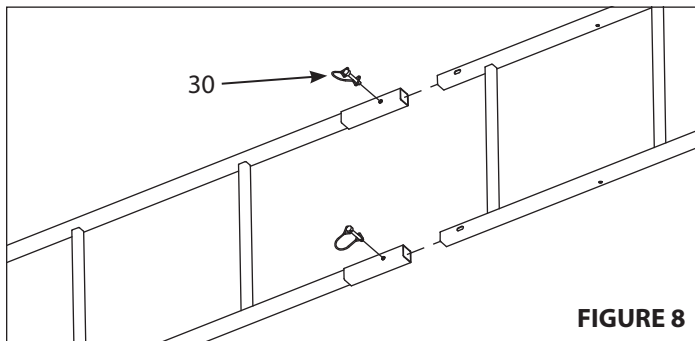

FIGURE 8
13. a. Attach the sewn seat pad (18) to the metal seat frame (9) by wrapping straps around metal frame and securely fastening all plastic buckles together. Pull straps tight so seat is not loose.
- b. Attach the sewn rail covers (19) to the shooting rail (17) and the backrest rail (15) by wrapping around tubing and attaching Velcro together.
15. With all sections assembled together on ground, secure all sections together using six provided spring lock pins (30). **SEE FIGURE 8.**